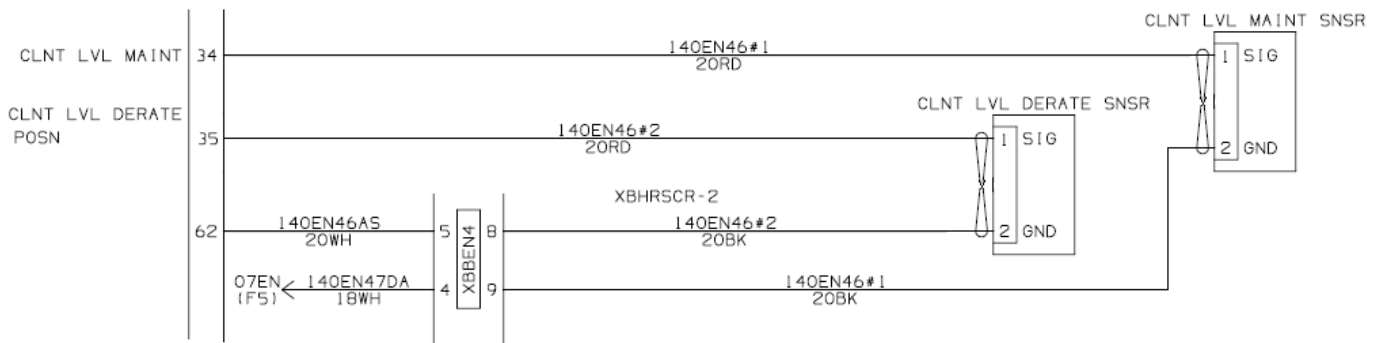

Figure 13: Surge Tank Derate Low Coolant Sensor Circuit.
- 25. Connect the newly terminated low coolant harness from Steps 21 thru 24 to the newly installed surge tank low coolant derate sensor from Step 14d. See Figure 13 for correct rework wiring schematic.